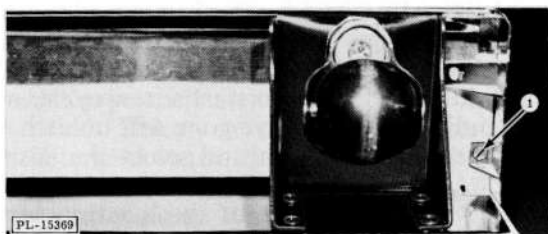
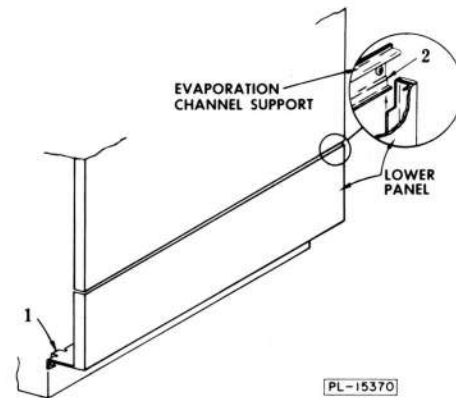

Fig. 12
Fig. 13
1. Remove two screws from lower flange of panel. For KD-58 models only, remove the slotted hex head mounting screws (1, Fig. 12) from the bottom of the lower front panel, R.H. & L.H. sides. For all other models, remove screws (2, Fig. 13) and lock washer.
2. Disengage tabs (1, Fig. 13) by pushing panel toward top of dishwasher, then pull panel forward and down to remove. When re-assembling panel, insert panel flange under evaporation channel support ends (3, Fig. 13) and reverse above procedure.